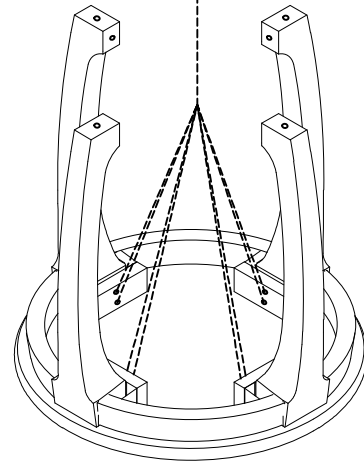

Figure 2
2. Attach bottom crossed frame to the bottom of leg, using Curve washers (E), Lock Washers (C), Bolts (B) with Allen key (F). (see Figure 2).